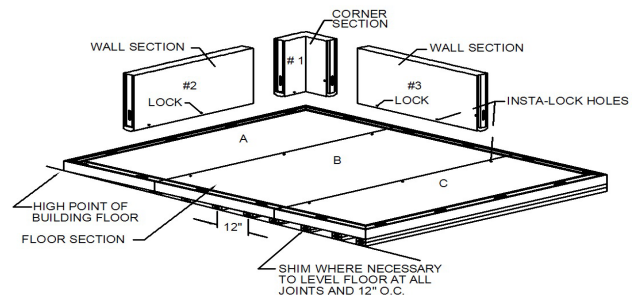

FIGURE 3 - FLOOR LEVELING
2. The levelness of the walk-in floor is very important. The entire floor area must be leveled from the highest point. If shimming is required to level the floor sections, the shims must extend underneath the entire section, not just at the edges. Shims must be used at the ends and at all floor seams. Shims must not exceed 12" on center (Refer to Figure 3 on Page 2).
2. Place corner panel #1 into position and lock it to the floor panel. Place wall panels #2 and #3 into their respective positions. Fully lock the middle camlock and half lock the top and bottom camlocks, making sure the wall panels are aligned and even at the top and bottom. Align the wall panels to the floor panels, ensuring squareness, levelness, and alignment to the floor (Refer to Figure 3). Lock the remaining camlocks, securing the wall panels to each other first and then to the floor panels.